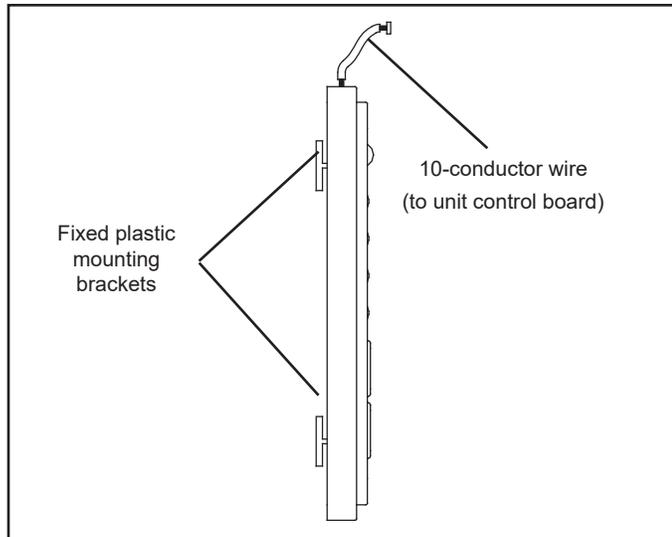

Figure 26. Receiver
2. Insert the two fixed plastic mounting brackets on the back of the receiver (Figure 26) into the two slots on the bottom of the electrical control box (Figure 25) and slide to secure it.